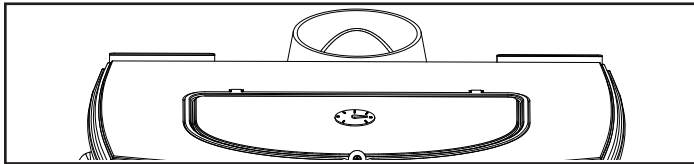

Figure 38 - Take temperature readings with a thermometer located in the middle of the griddle.
4. **If your appliance has been broken-in previously** using Steps 1-3, continue to build the fire gradually. Add larger wood with a diameter of 3-4" (75-100 mm). Continue adding split logs of this size to the briskly-burning fire until there is a glowing ember bed 2-3" (51-75 mm) deep. (Figure 38) A good ember bed is necessary for proper functioning of the combustion system.
An optional surface thermometer tells you when to adjust the air control, and when to refuel. (Figure 38)